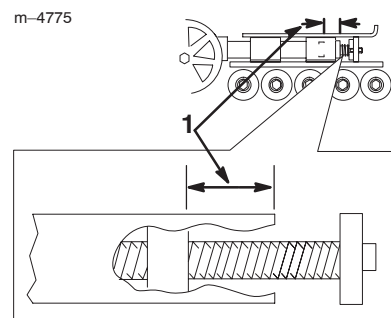
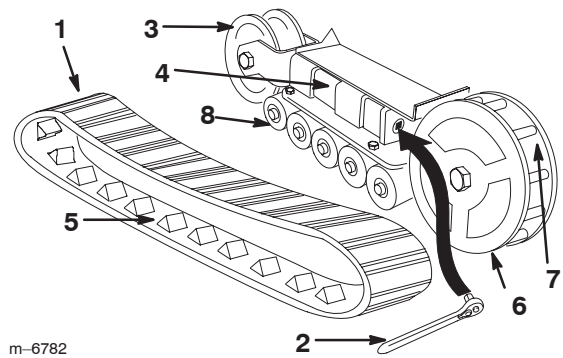

Figure 47
Figure 49
Check and adjust the track tension every 100 operating hours. There should be 2-3/4 inches (7 cm) between the tension nut and the back of the tension tube (Fig. 47). If not, adjust the track tension using the following procedure:
- Using a 1/2 inch drive socket (Fig. 49), turn the tensioning screw counter-clockwise until the distance between the tension nut and the back of the tension tube (Fig. 47) is 2-3/4 inches (7 cm).
- Push the tension wheel toward the rear of the unit to move the fork tube against the frame (Fig. 49). (If it does not touch the frame, continue turning the tensioning screw until it does.)
- When the track is off of the tension wheel, remove it from the drive sprocket and road wheels (Fig. 49).
- Beginning at the drive sprocket, coil the new track around the sprocket, ensuring that the lugs on the track fit between the spacers on the sprocket (Fig. 49).
- Push the track under and between the road wheels (Fig. 49).
- Turn the tensioning screw counter-clockwise until the distance between the tension nut and the back of the fork tube (Fig. 47) is 2-3/4 inches (7 cm).